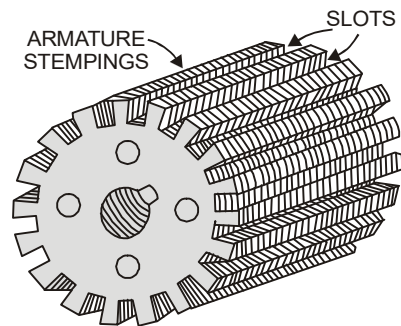

Fig. 4.49: Armature of a dc machine
4. **Armature core :** It is cylindrical in shape and keyed to the rotating shaft. At the outer periphery slots are cut, as shown in fig.4.49, which accommodate the armature winding. The armature core serves the following purposes :
Since armature is a rotating part of the machine, reversal of flux takes place in the core, hence hysteresis losses are produced. To minimise these losses silicon steel material is used for its construction. The rotating armature cuts across the magnetic field which induces an e.m.f in it. This e.m.f. circulates eddy currents which results in eddy current loss in it. To reduce these losses, armature core is laminated, in other words we can say that about 0.3 to 0.5 mm thick stampings are used for its construction. Each lamination or stamping is insulated from the other by varnish layer (see fig.4.49).